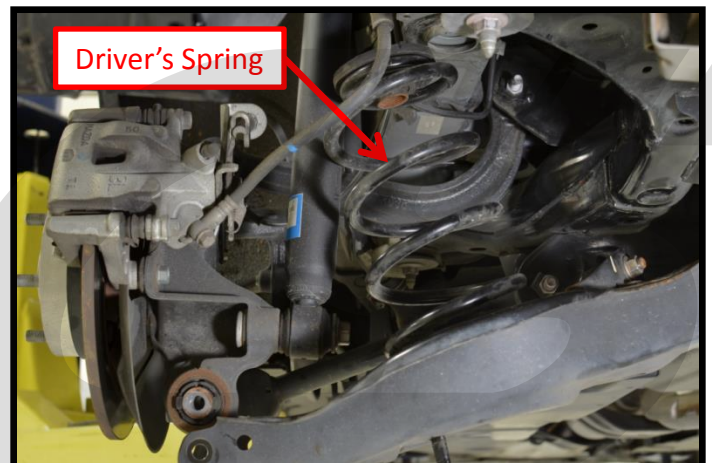

Figure 2e
- g) Remove the spring to gain room and slide the swaybar out. **Figure 2e** shows the spring lose it will easily come out. Do not loose the piece on the top of the spring.